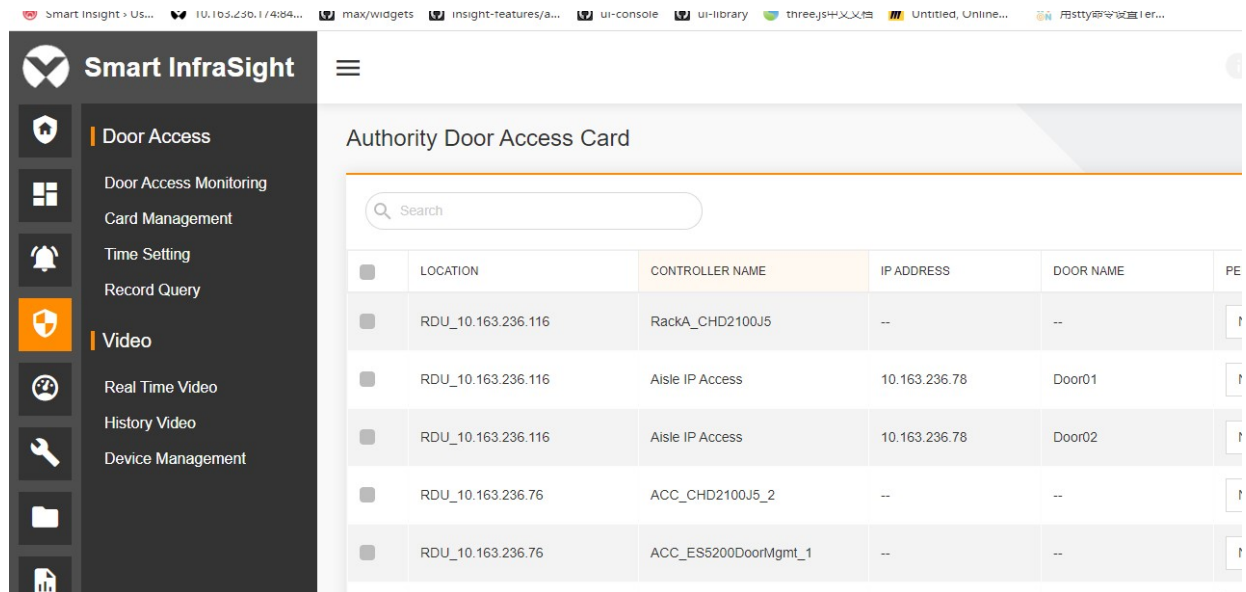

Figure 13-39 Card authorization - Changing the permission group
3. After you select an option from the **PERMISSION GROUP** drop-down list box, a rotating icon appears in the last column, indicating that the authorization is in progress. When the authorization is successful, a green icon  is displayed. When the authorization fails, a red icon  is displayed. In addition, the **PERMISSION GROUP** option restores to the previous setting before it is changed. Taking **Group 1** as an example, the page displayed after the authorization is successfully is as shown in Figure 13-39.